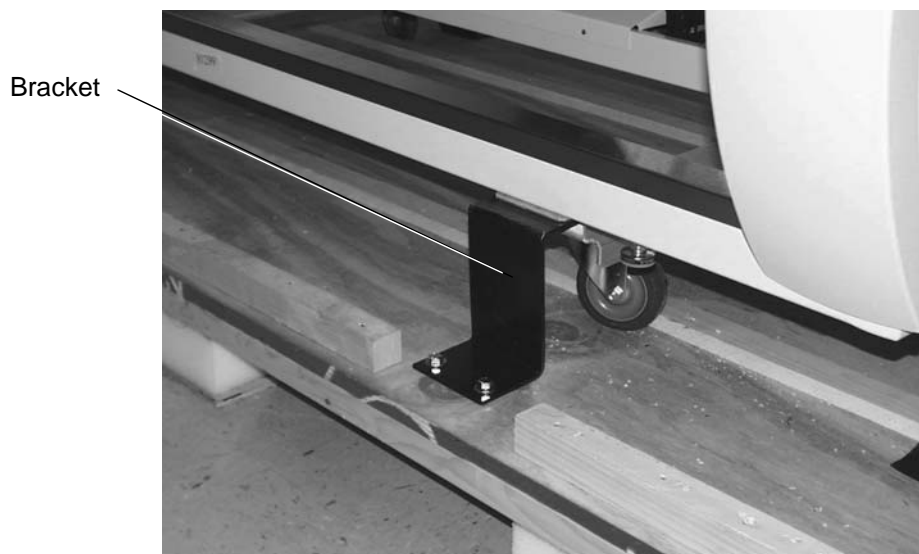

Figure 3-11. Shipping Bracket
1. Remove the four shipping brackets (Figure 3-11) as follows: loosen the screws that hold the auxiliary caster bars (located under each bracket), remove the lag bolts and remove the bracket. Then, re-tighten the screws that hold the auxiliary caster bar to the frame.